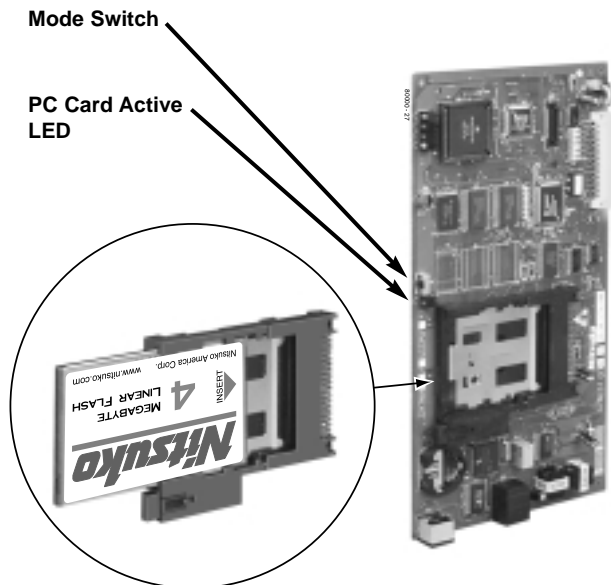

Figure 5-1 USING THE PC CARD
### Backing Up Site Data with a PC Card (Figure 5-1)
1. Insert the PC Card into the CPU (see Figure 5-1).